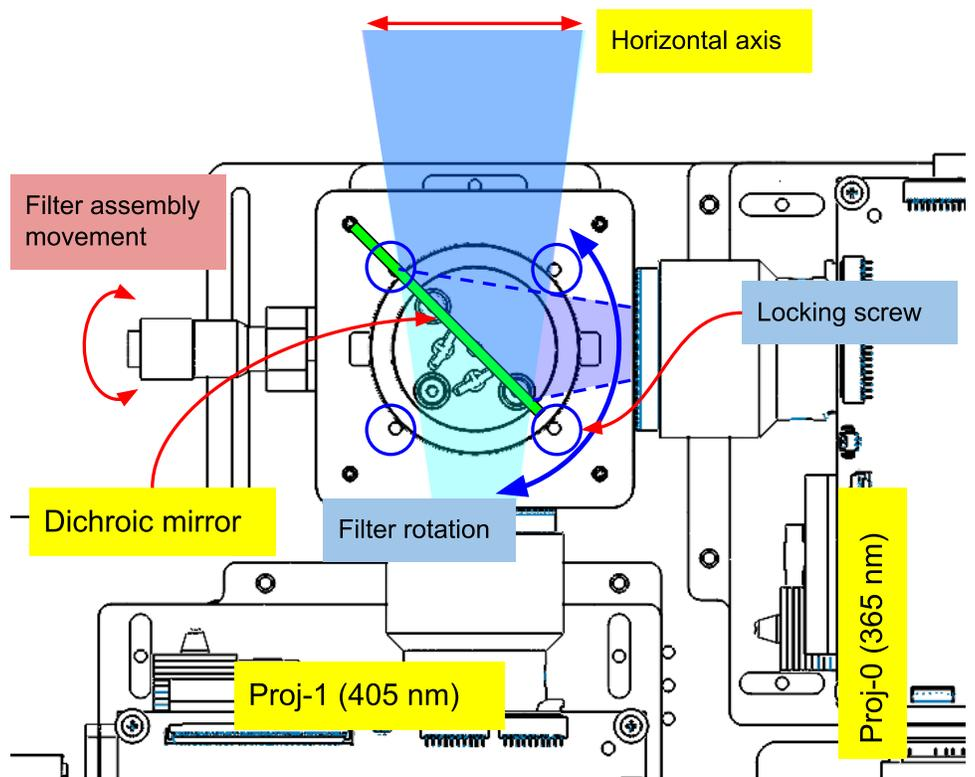

Fig. 17. Dichroic filter and projector assembly
- Basically two projectors are aligned and combined by a dichroic mirror (Fig. 17).
- In this case, adjust the filter rotation near to 45 degrees as shown in Fig. 17 and check the left and right side to see if their height is the same and they are both in focus.
- Option 1: move a whole filter assembly horizontally using a linear stage underneath (**Fig. 17**).